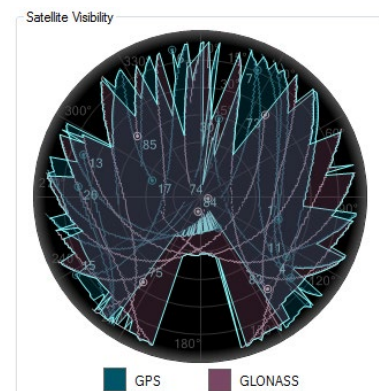

Figure 74 - "Satellite Visibility" section
This section contains a satellite map and over time plots each tracked satellites orbital path (refer to Figure 74). GPS satellites and their trails are in blue, and GLONASS satellites and their trails are in purple. The present location of the satellite is represented by the marker "⊙", and the Space Vehicle (SV) Identifier is located adjacent to it.